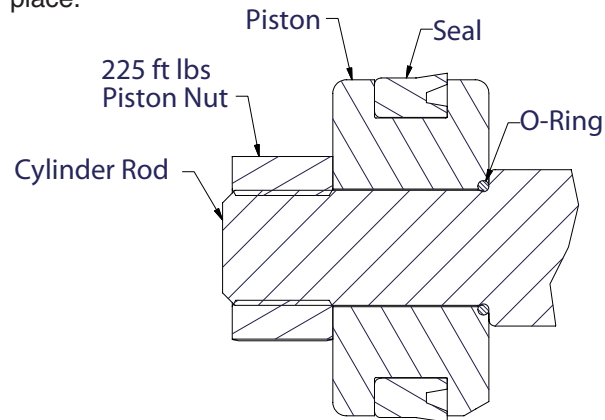

Figure 1-5, Piston Seal
2. Note the direction of the seal on the piston. Improper installation will result in poor performance. The cupped side or O-Ring side of the seal should be facing the gland cap. (Figure 1-5)